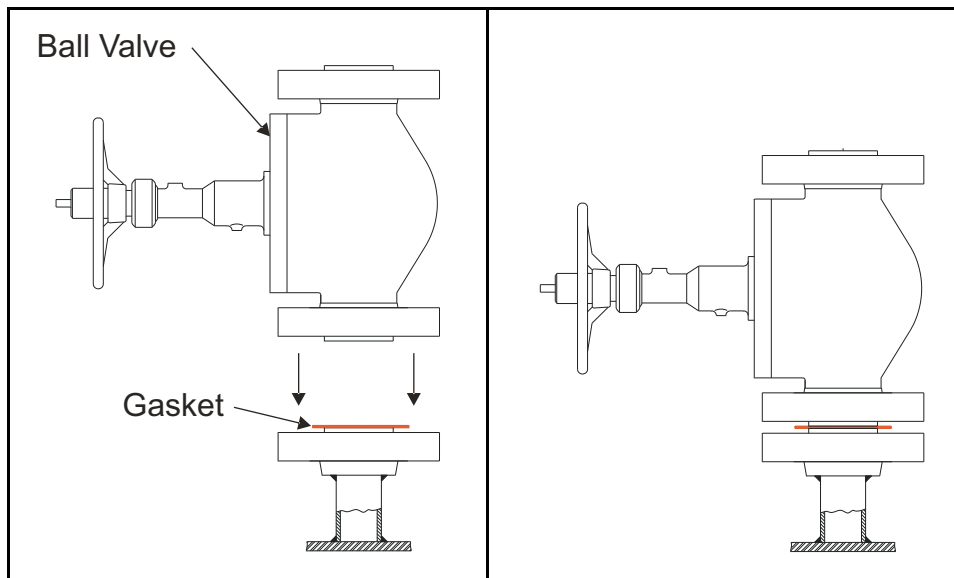

Figure 5: Mounting a Ball Valve onto the Flange
7. Bolt a 2 in. flanged, full-port, ball valve to each nozzle (see *Figure 5* below). Be sure to use a new flange gasket for each valve.